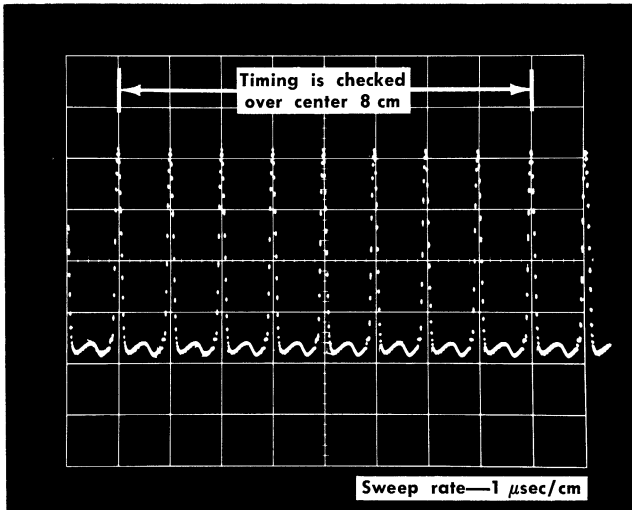

Fig. 5-21. 1- $\mu$ sec marker waveform for TIMING CURRENT (R340) adjustment.
- f. **Check** for exactly 1 cycle/cm (see Fig. 5-21).